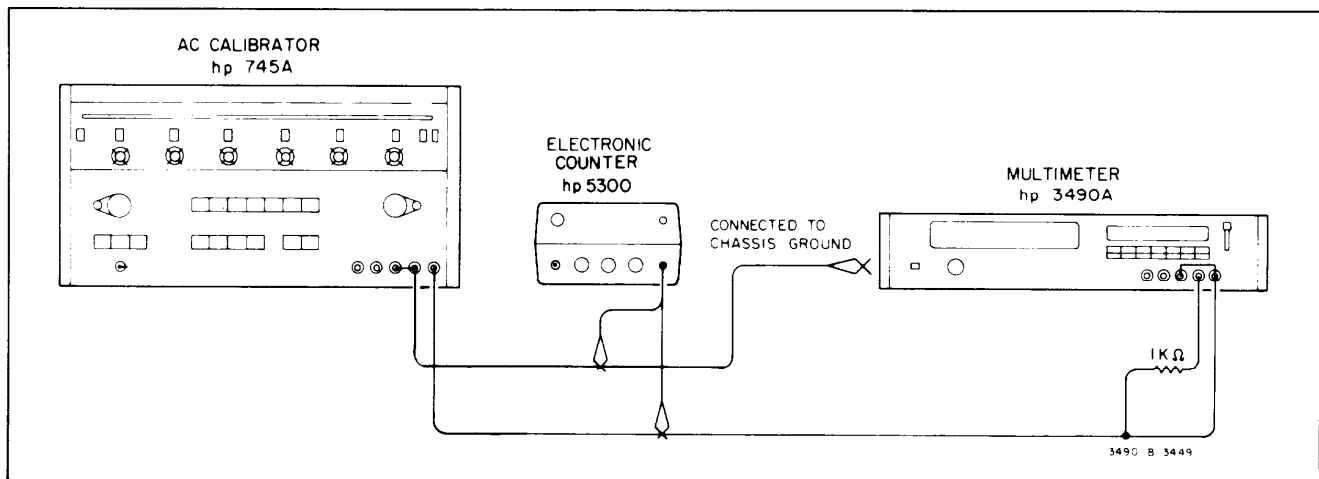

Figure 5-3. AC Common-Mode Rejection Test.
a. Connect a 1 k Ω resistor between input High and Low terminals, and connect High to Guard as shown in Figure 5-3.
d. Connect ac calibrator to 3490A as indicated in Figure 5-3 and set output voltage to 70.7 Vrms (100 V peak).